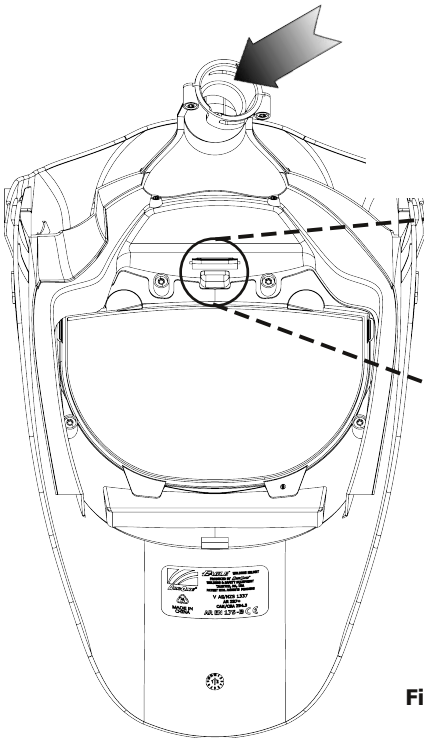

Figure 14a
- b. A closed valve allows more air flow at the sides of the airduct (Fig. 14a and 14b).